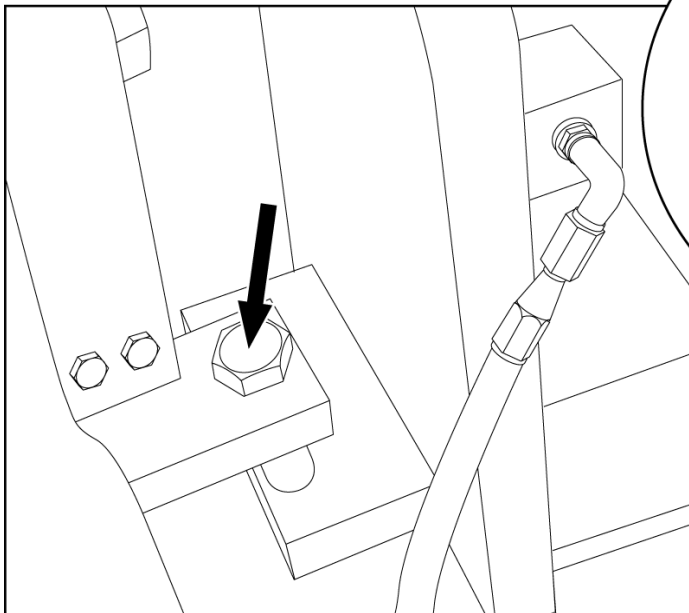

Figure 6.14 SPRING STOP ADJUSTMENT BOLTS
- 6.2.8 Move spring stop assembly so springs are 1/4" [6.5mm] to 1/2" [13mm] in front of a pallet centered in pallet cradles. Also, top of spring should be flush with top of pallet. (see figure 6.14 and 6.15).